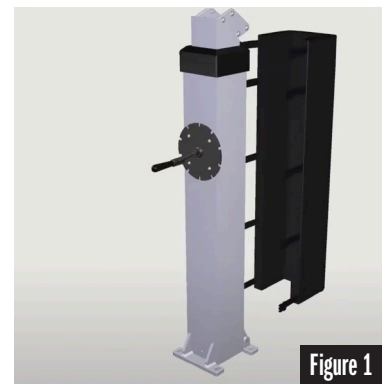

Figure 1
**STEP 1:** Remove the Pad from the Base Pole (Part E). See Figure 1.